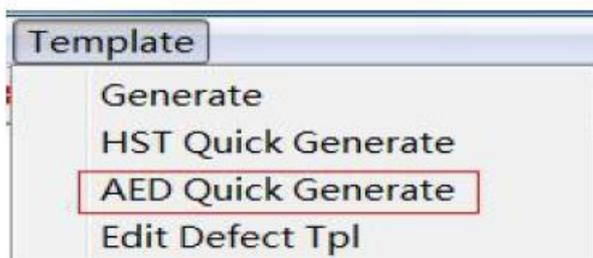

Figure 3-20
b) Click the Template button in the upper left corner of the interface, and select the AED Quick Generate button, as shown in Figure 3-20.